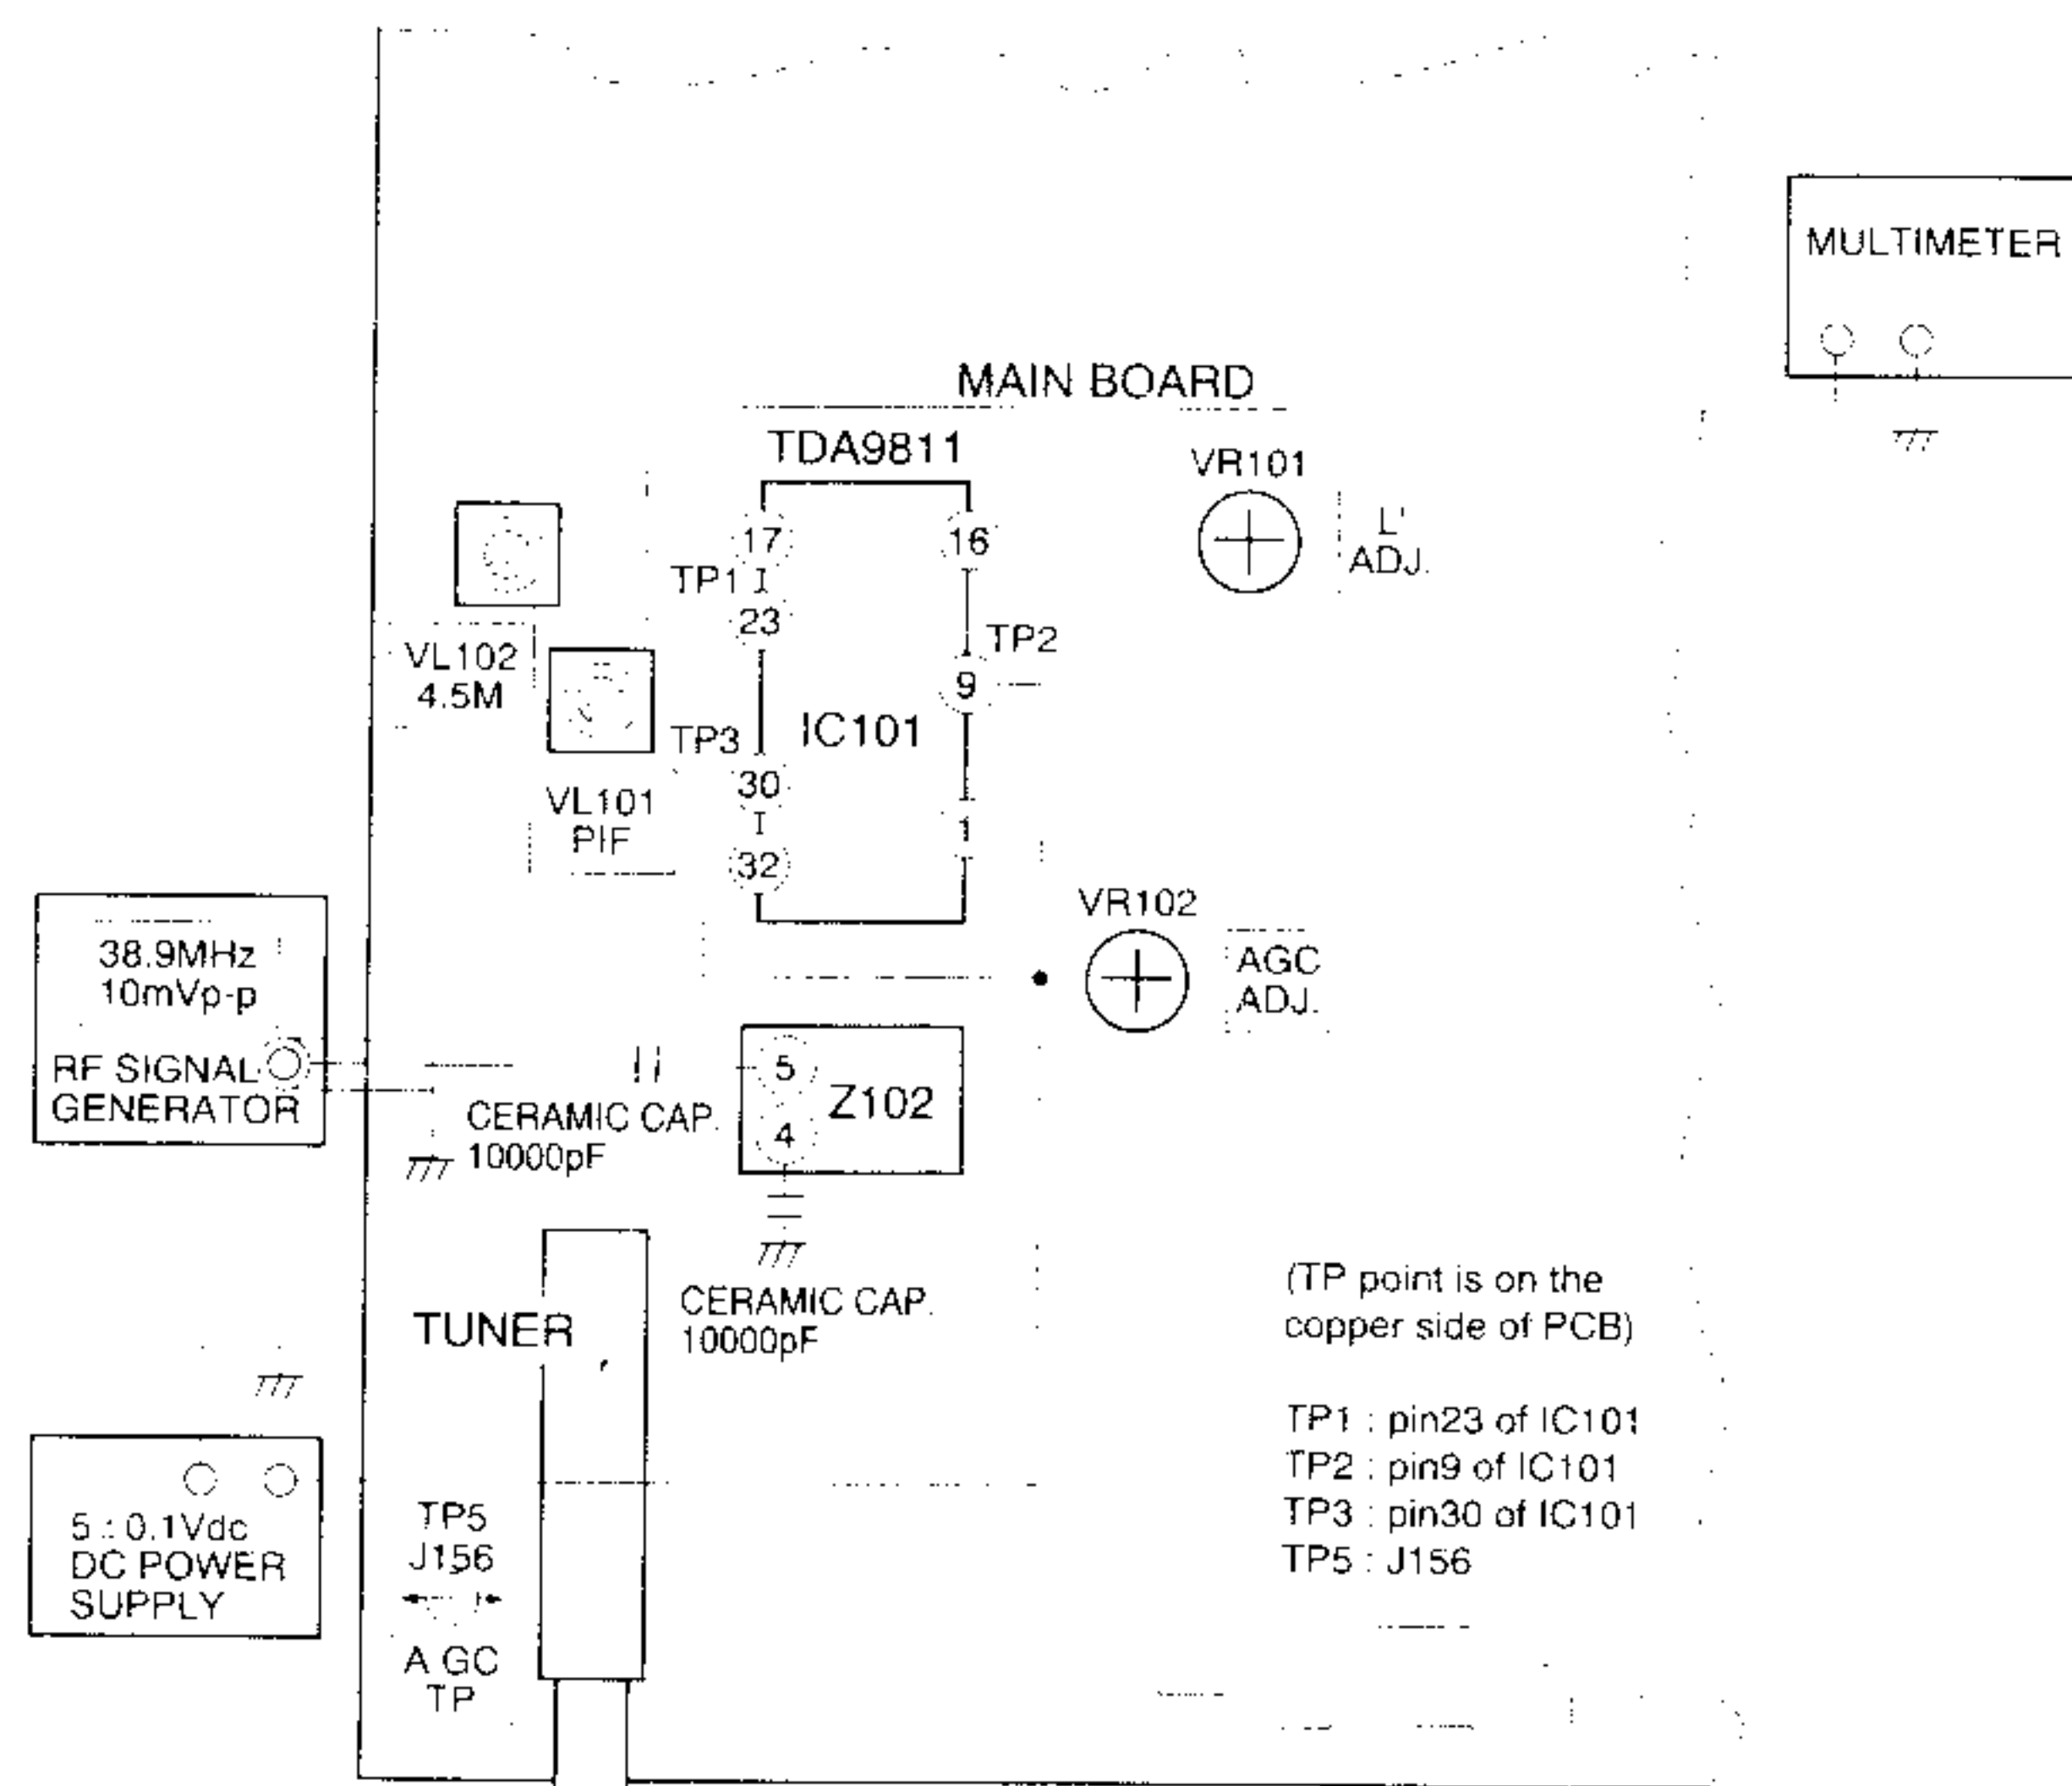

Fig. 1: Connection Diagram of Equipment for PIF Adjustment
- 1) Connect the measuring equipment to the Main Board as shown in Fig.1.